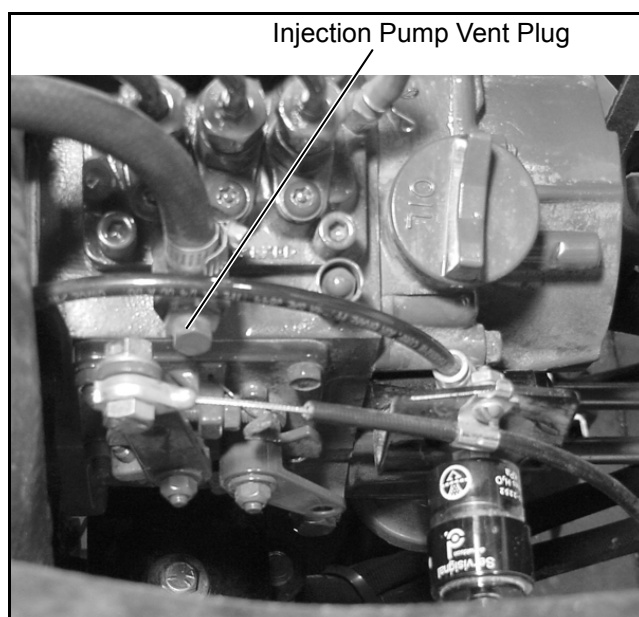

Figure 3D-12. Injection Pump Vent Plug
6. Allow fuel to flow from the injection pump vent until air bubbles no longer appear. Tighten the vent plug (Figure 3D-12).